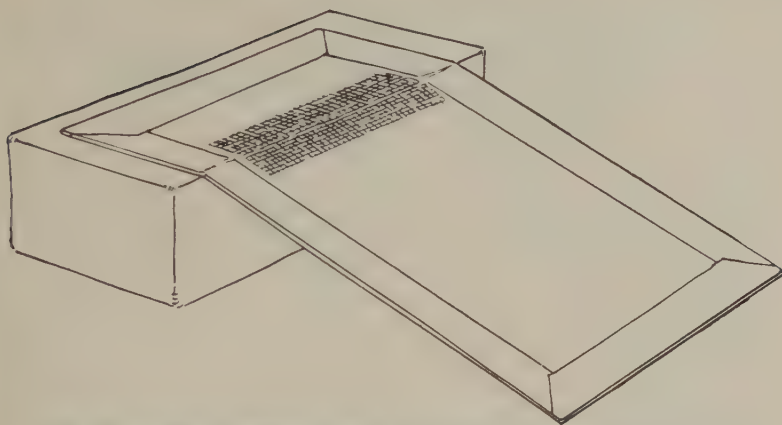

FIG. 76—EASEL COVERED, FOLD JOINTS SLIT AND MUSLIN STRIP AFFIXED WHILE EASEL IS HELD IN OPEN POSITION
10. As soon as these are sufficiently dry, take the easel board and with your knife slit the paper *turn-ins* on the two long edges where the two boards join, starting at the edge of boards, and lay the board face downward on a brick laid flat wise on table, so that the two inch wide board is on the brick and the edge of other end of board on table. (See Fig. 76.)
11. While easel board is in this position cut a piece of 1" wide gummed tape $4\frac{1}{4}$ " long, moisten the gummed side and affix it to easel board over the joint of the two boards. (Fig. 76.)